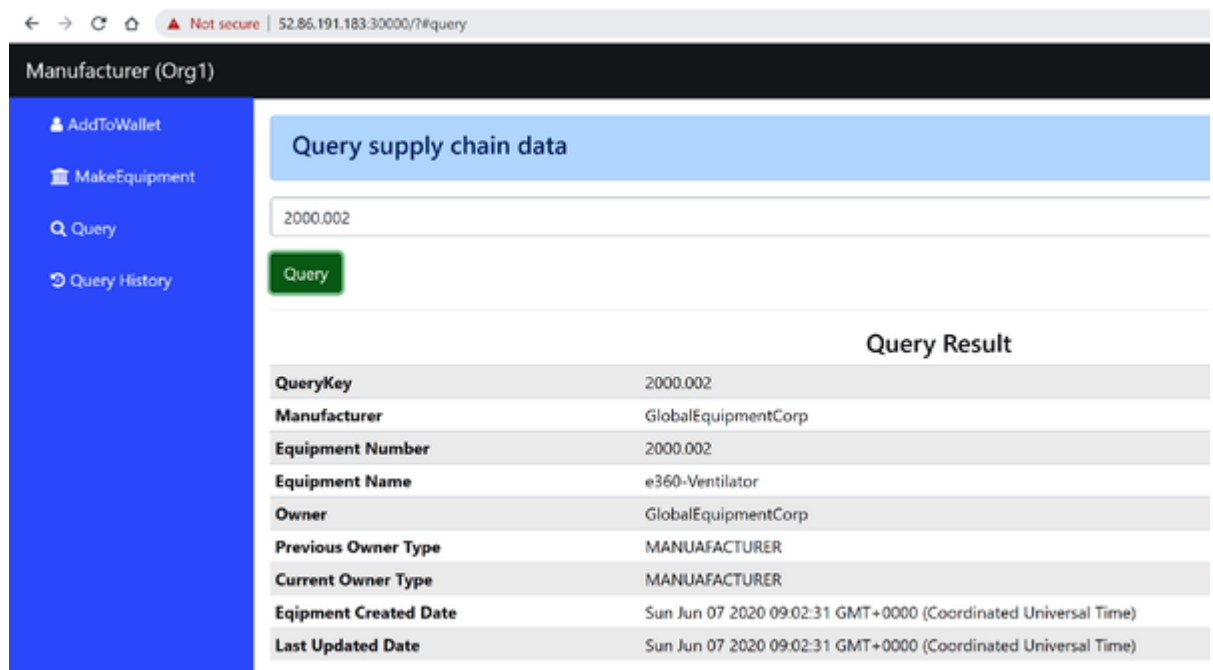

Figure 11: Query equipment on PLN network
11. We can now query equipment data in the PLN network by equipment number. **Figure 11** shows the result.